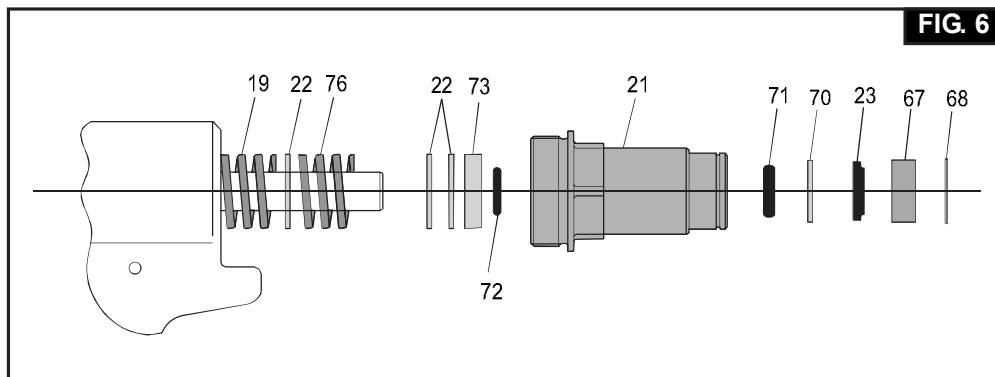

FIG. 6
4. Remove Adapter (64) and Tube/ Slide Assembly (63).
5. Remove End Cap (21)(Fig. 6).
(Refer to Figures 6 & 15)
1. Assemble Adapter and Tube/Side Assembly (63) with 2 - O-Rings (62).
2. From bottle side of End Cap (21) install O-Ring (71), Washer (70), Wiper Seal (23), Wiper Housing (67) and Retaining Ring (68) as shown in (Fig. 6).
3. From tool side of end cap install O-Ring (72), Washer (73), 3-Washers (22), Springs (76) and Spring 19. (as shown in Fig. 6) Screw entire assembly into head and tighten.